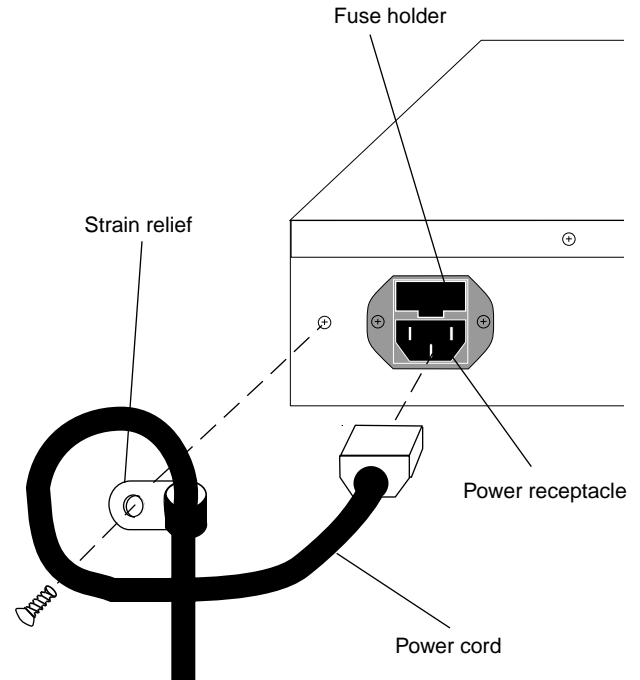

Figure 4-1 Switch 2200 Power Receptacle Assembly
- 2 Plug the power cord into the system. See Figure 4-1 for the location of the power receptacle on the back panel.